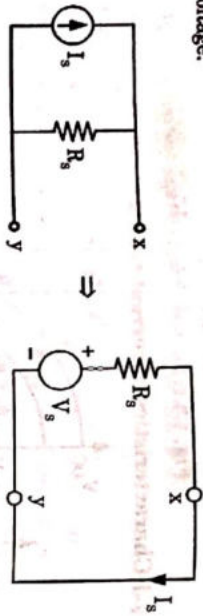

Fig. 1.4.2.
1. Let us consider a practical current source I_s with a source or internal resistance R_s as shown in Fig. 1.4.2.